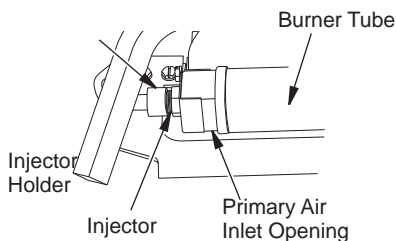

Figure 25 - Injector Holder on Front Burner Tube
2. Inspect burner and primary air inlet holes on injector holder for dust and dirt (see Figure 25).